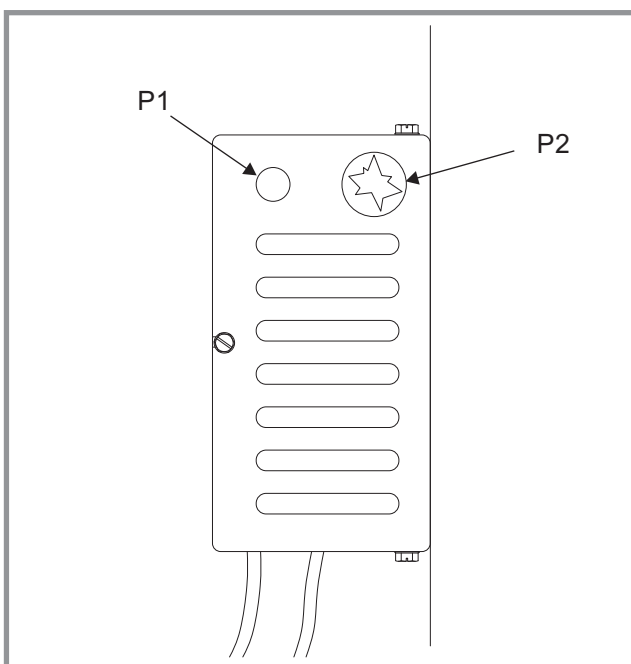

Figure 6
- 5 - Push the button (# P2, fig. 6) until the flame appears.
Nota : the light (# P1, fig. 6) stays on as much as the igniter is on.